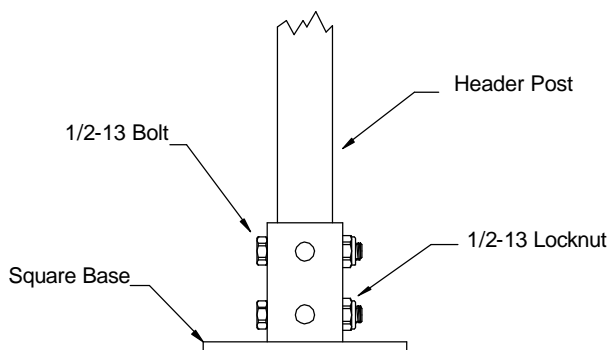

FIGURE 8
4. Mount the square tubing to the base using the supplied 1/2" locknuts and bolts. A spirit level should be used to ensure that the square tubes are level. (Figure 8)